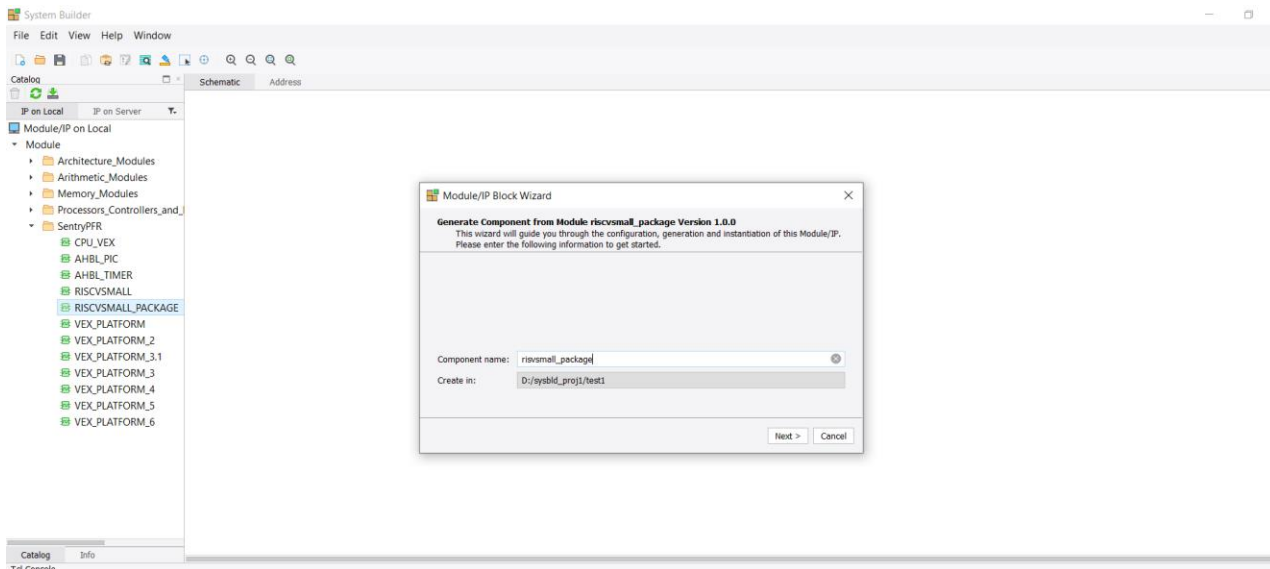

Figure 3.1. Selecting the Package
3. Click **Next**. In the example shown in Figure 3.1, the *RISCVSMALL_PACKAGE* is selected.